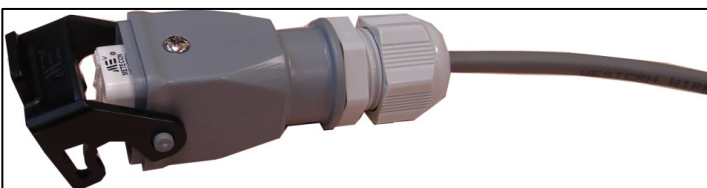

Figure 6: Wired Unit in Protective Cover
6. Place the wired connector back into the protective cover and place the retaining screw in place (Figure 6).